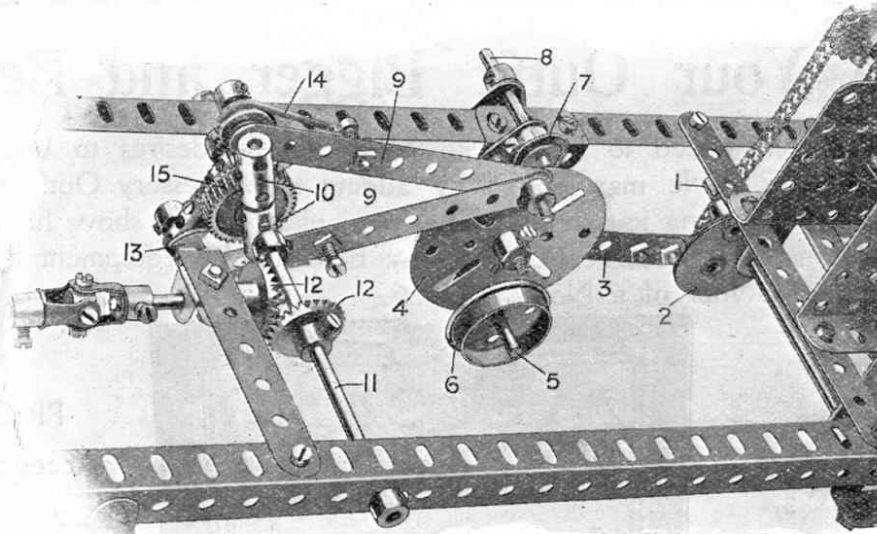

Fig. 4. The Converter in Meccano
The Meccano model of the Torque Converter may be constructed as follows. The rod 1 (Fig. 4) is rotated by a sprocket chain from the electric motor fitted to the chassis. This rod carries a triple throw eccentric (2) which is connected by a 3" strip (3) to the centre of a face plate (4). A short rod (5) passes through the lower hole of the face plate and carries two flanged wheels (6) which act as the pendulum weight. The rod (5) and the weights (6) are suspended by two cranks (7) from the short pivotal rod (8) mounted on the main member of the frame as shown. Two 4½" strips (9) are connected to the top hole of the face plate (4) and their other ends are connected to elements each formed by two couplings (10) secured on short rods, the couplings rocking loosely on the driven rod (11) from which the drive to the differential is conveyed through the bevels (12). Two pawls (13)